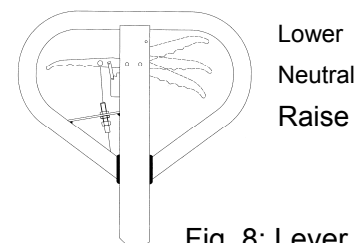

Fig. 8: Lever
If necessary, you can adjust the lever according to following steps (Fig. 8):
c) If the forks do not descent when the control handle is in the **Lower** position, turn the adjusting nut clockwise until raising the control handle lowers the forks. Then check the **Neutral** position according to fig. 8 and be sure that the adjusting nut is in the proper position.